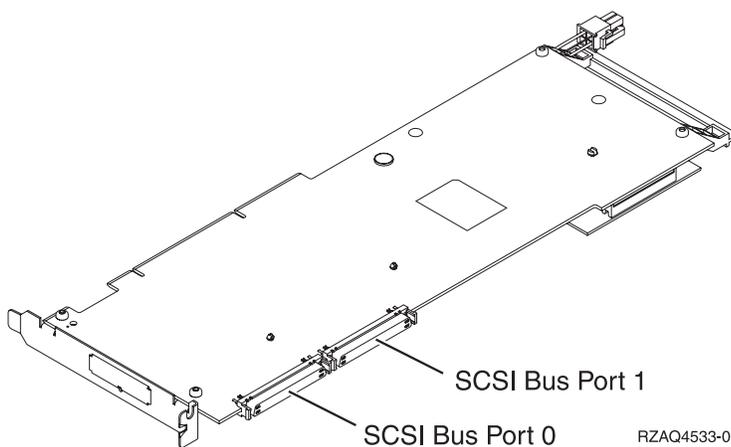

Figure 104. PCI adapter
13. If this backplane has a cable connection, install the cable to the backplane and attach the cable to Port 0 of the PCI disk adapter as shown in Figure 104. If you need to install the PCI adapter, see Install a PCI adapter.